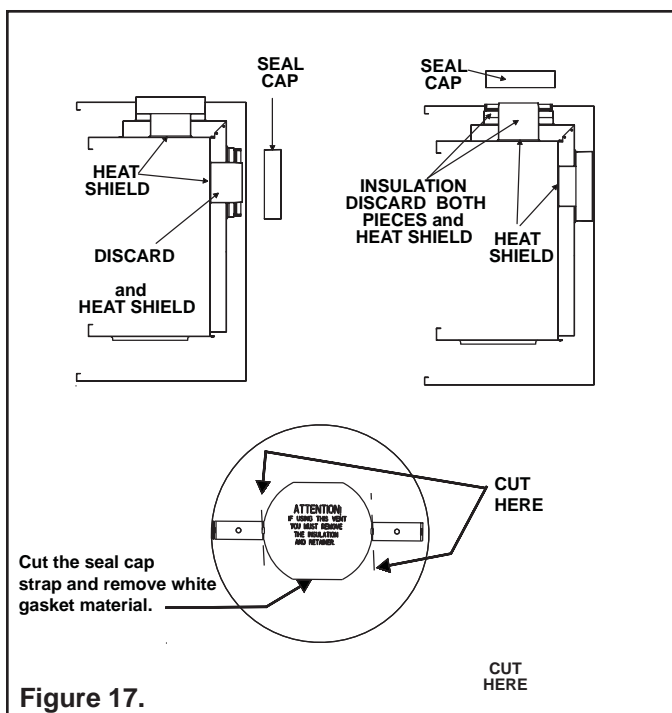

Figure 17.
Remove the installed rear seal cap from the rear starting collars by cutting the strap at each end. (see Figure 17). Follow the vent configuration tables accordingly.
**WARNING: THE TOP HEAT SHIELD (INSIDE THE FIREBOX) MUST REMAIN ATTACHED IF THE VENT SYSTEM IS ATTACHED TO THE REAR STARTING COLLARS. SEE FIGURE 17.**
Remove the two screws in the top vent collar seal cap and remove the top vent collar seal cap and the two pieces of insulation inside the top two starting collars (See Figure 17).